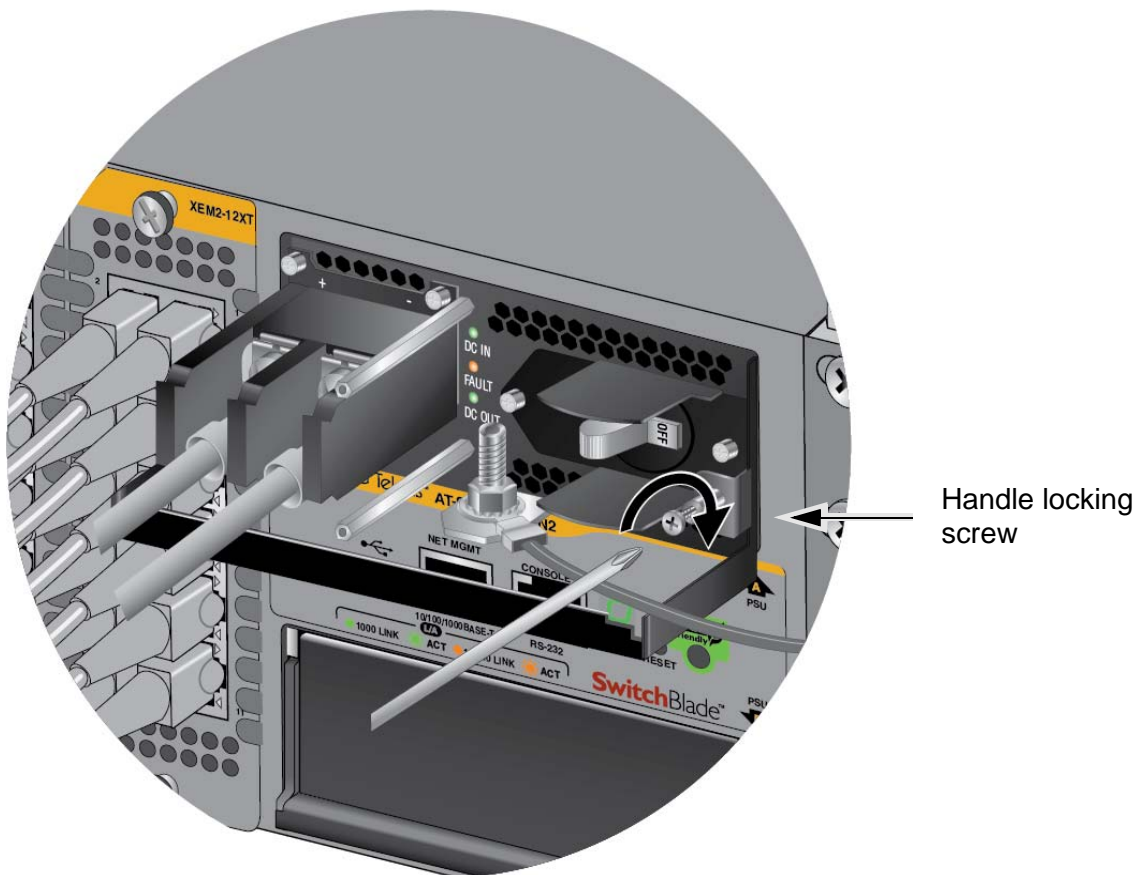

Figure 81. Tightening the Handle Locking Screw
8. With a #2 Phillips-head screwdriver, tighten the handle locking screw to secure the power supply to the chassis. See Figure 81 on page 116.
7. With a #2 Phillips-head screwdriver, tighten the handle locking screw to secure the power supply to the chassis. See Figure 81 on page 116.